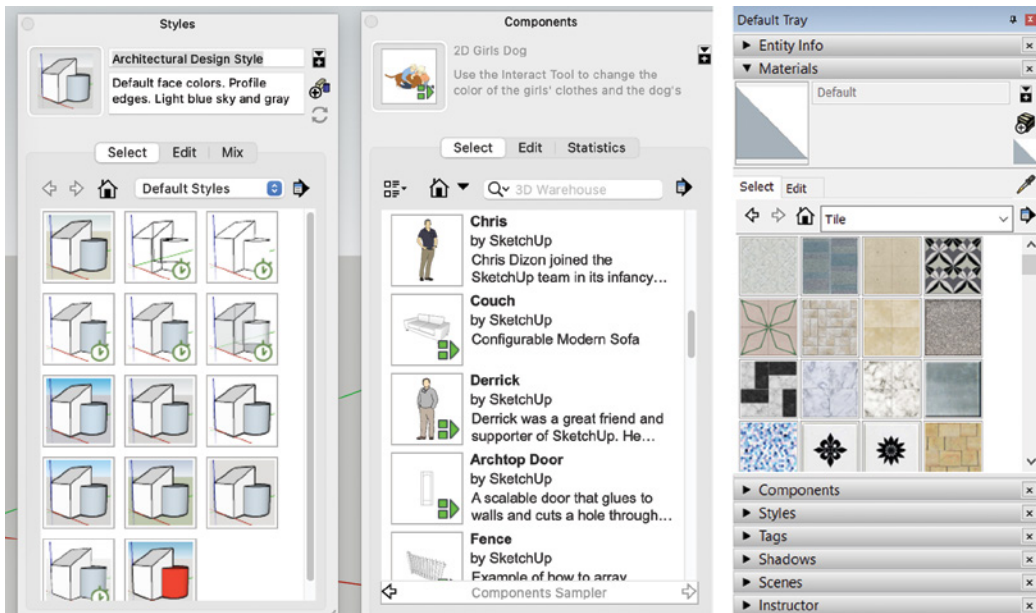

Figure 3-42: The Styles, Components, and Materials windows.
- *Styles, Components, Materials.* Go to **Window>Style** and adjust whatever settings there you want, such as workplace color and model style (Figure 3-42). Click open the components and materials windows to add anything there. You might want to add a different scale figure component or delete the one that's there.